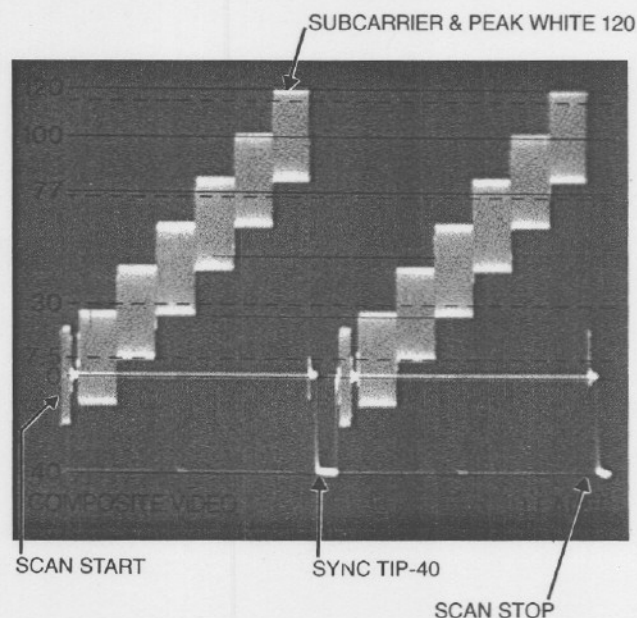

Figure 4-5. H and V gain adjustment
4. Adjust VR7, H GAIN, so that the end of burst and the leading edge of the sync pulse at the right of the waveform appear as shown in Figure 4-5.
5. Adjust VR1, V GAIN, so that the 100% peak white part of the signal is at 100 IRE and sync tip is at -40 IRE. Refer to Figure 4-5. Reset VR6, V POS, on the HV power supply board to correct vertical centering if necessary.